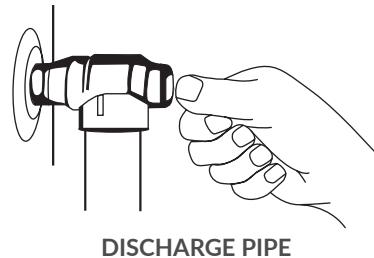

FIGURE 7.
When checking the temperature-pressure relief valve operation, make sure that (1) no one is in front of or around the outlet of the temperature-pressure relief valve discharge line, and (2) that the water discharge will not cause any property damage, as the water may be extremely hot, see figure 7.